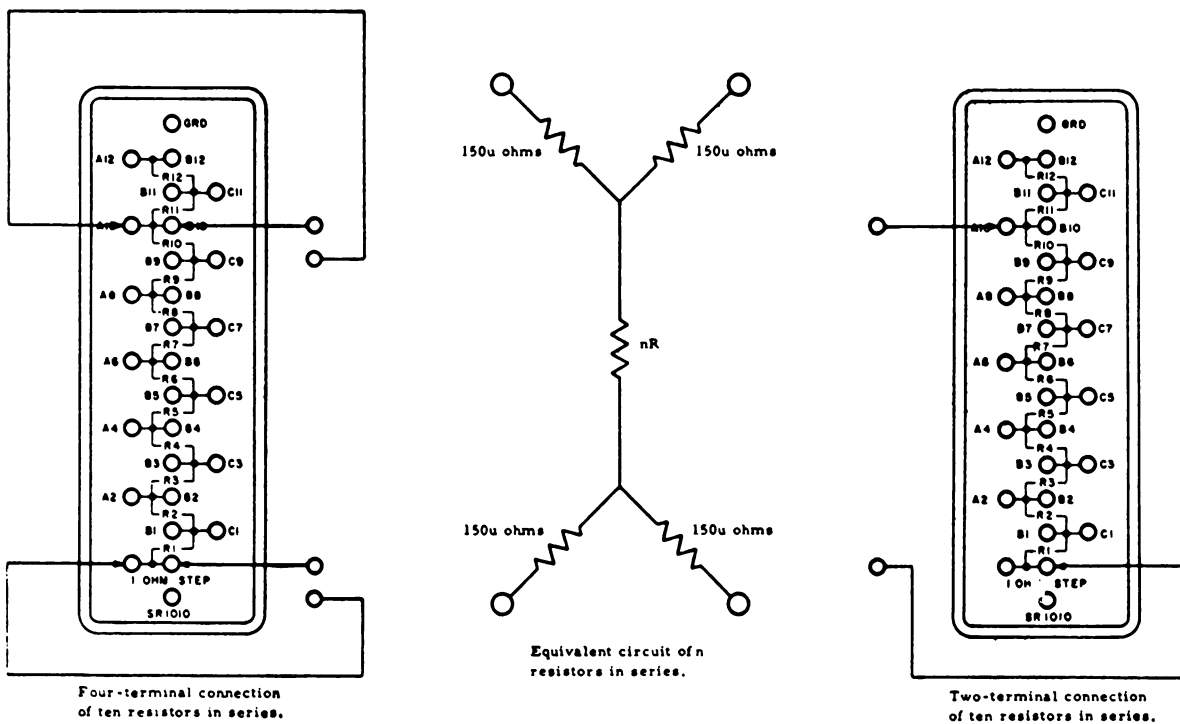

Figure 1-33. Decade standard two- and four-terminal series connections.
**Decade standard connections.** The standard (SR 1010) is used in four-terminal resistance connections. The equivalent circuit for series resistors connected in four-terminal and two-terminal connections and the instrument's hookup panel are shown in figure 1-33.
The four connections shown in figure 1-33 are made to the two pairs of binding posts at either end of any of the resistors. The resistors are internally connected in series. To connect to "9" resistors in series, it is necessary only to connect to the opposite ends of the first and ninth resistors.